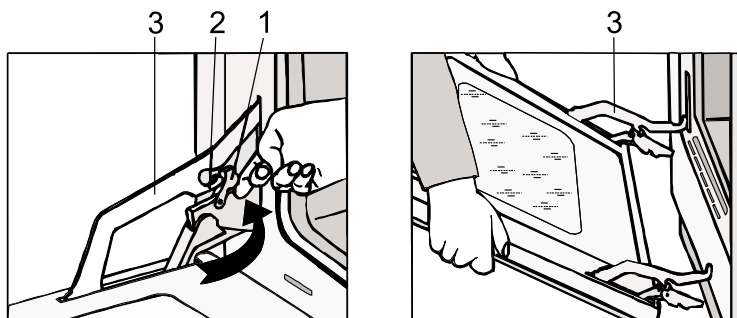

Fig. 19
- Lock hinges on both sides of the door by placing the clamping ring 1 on the catch 2 of the hinge bow 3 (fig. 19),